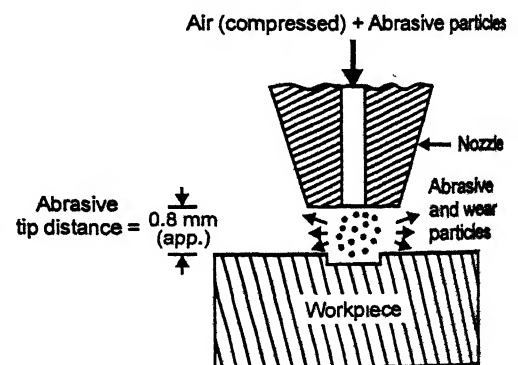

Fig. 12.9. Abrasive Jet Machining (AJM).
**Principle and Working :** Refer to Fig. 12.9.